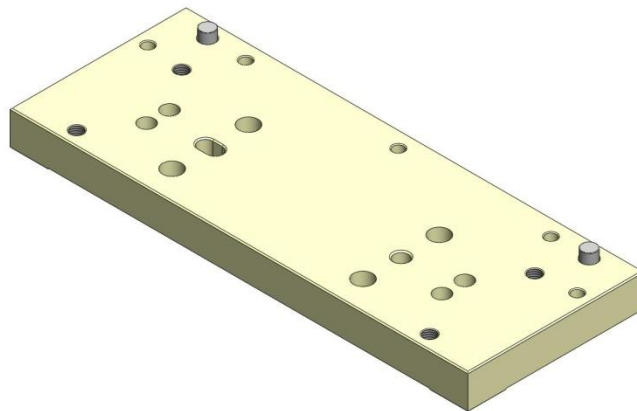
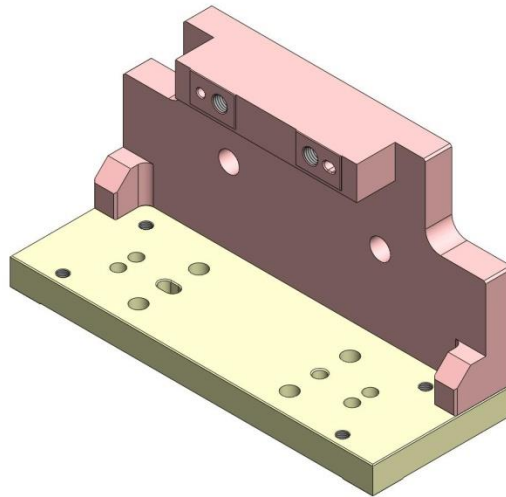

Figure 4.15. Press (2) pins into Set-Up Fixture Plate 2 (D071317).
Figure 4.16. Bolt on Set-Up Fixture Plate 1 (D071316).
- Assemble **Actuator Set-Up Fixture** (D071497). Refer to Figure 4.15 and Figure 4.16.